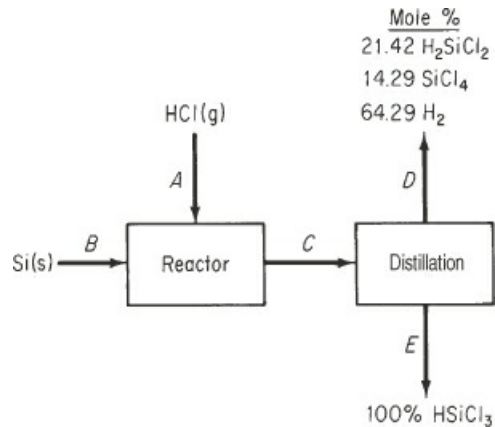

Figure P5.2.9
***5.2.9 Metallurgical-grade silicon is purified to electronic grade for use in the semiconductor industry by chemically separating it from its impurities. The Si metal reacts in varying degrees with hydrogen chloride gas at 300°C to form several polychlorinated silanes. Trichlorosilane is liquid at room temperature and is easily separated by fractional distillation from the other gases. If 100 kg of silicon is reacted as shown in Figure P5.2.9, how much trichlorosilane is produced?